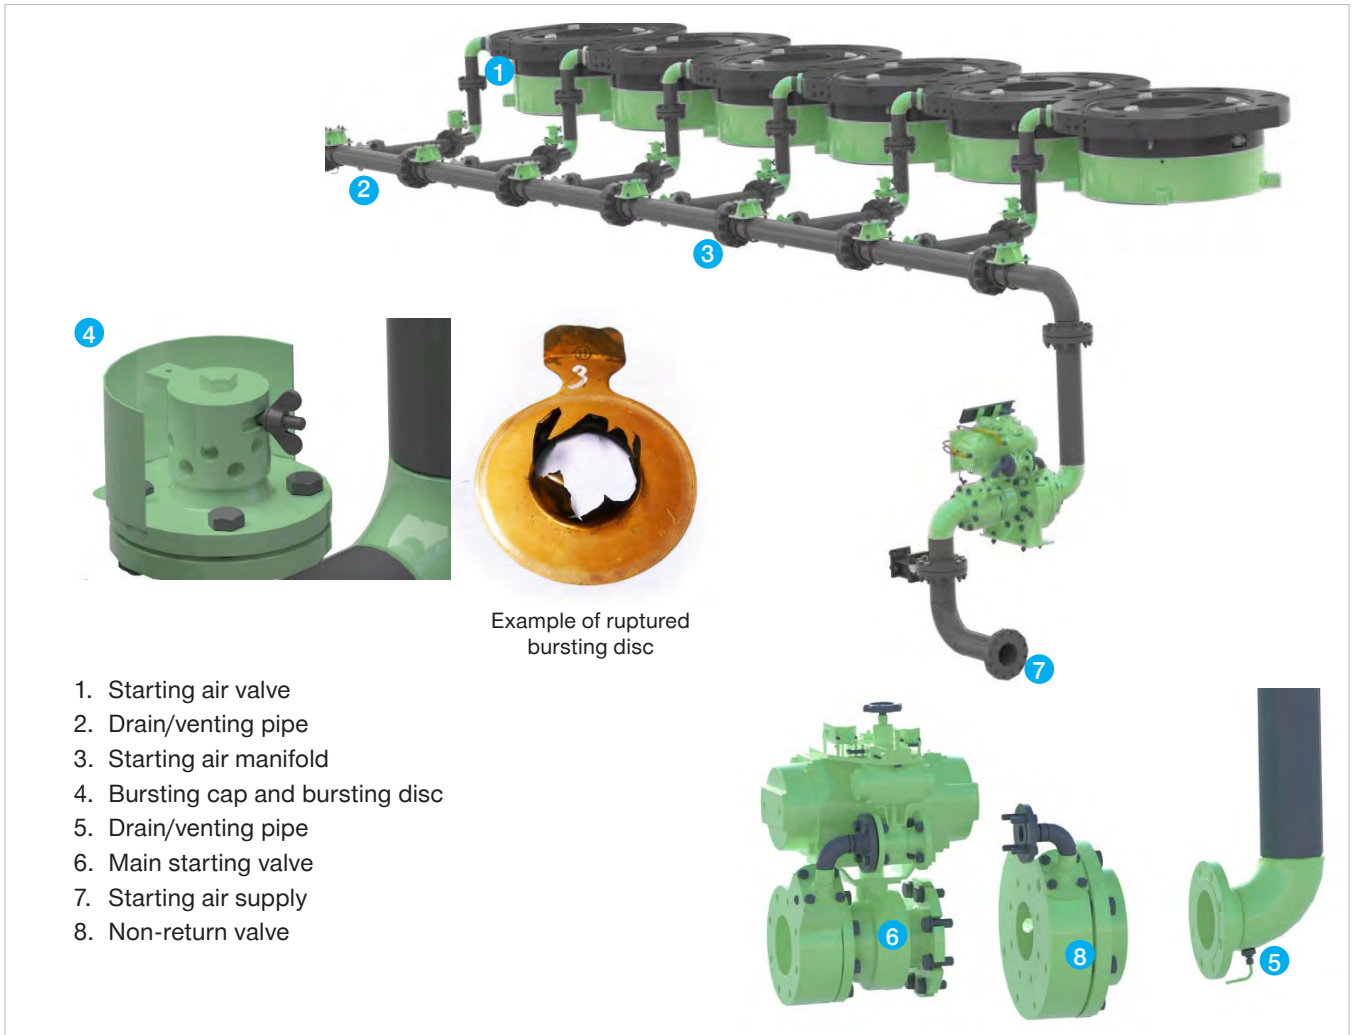

Fig. 1: Engine starting air system
- At regular intervals, check that the two drains from the main starting air manifold on the engine (Fig. 1 pos. 2)
The bursting disc in the starting air pipe branch for each cylinder cover (pos. 1 in Fig. 1) is designed to withstand the 30 bar starting air pressure, but it will rupture when exposed to a significantly higher pressure. In this way, it protects the starting air manifold, the non-return valve, and the main starting valve.